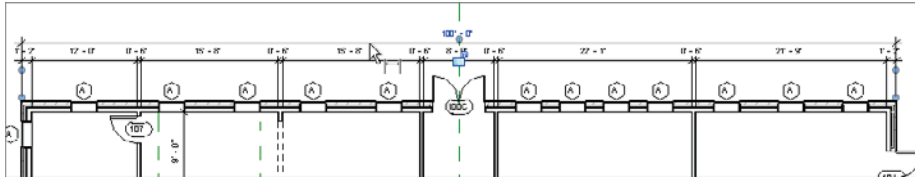

FIGURE 5.5 Adding a major dimension by turning off the Intersecting Walls choice in the Auto Dimension Options dialog box
15. When you see the dimension snap, pick that point (see Figure 5.5).